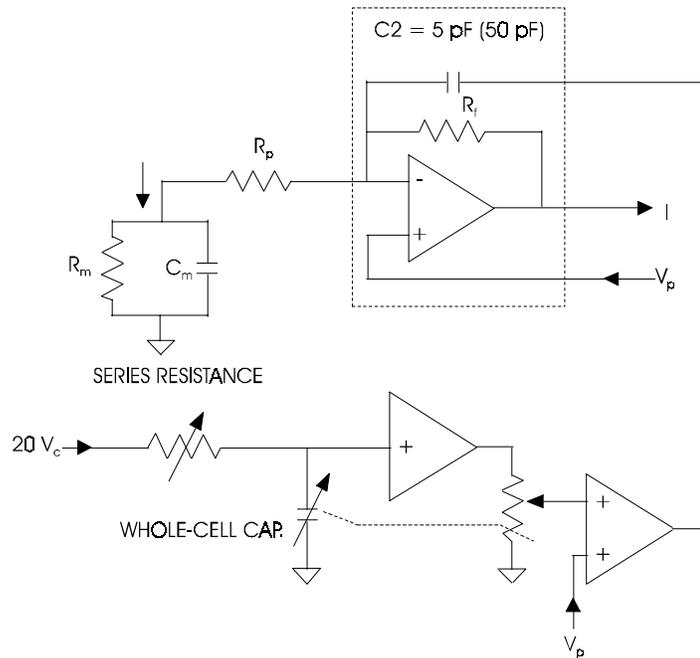

Figure 19. Whole-cell capacitance compensation circuit.
The SERIES RESISTANCE and WHOLE-CELL CAP. controls are used to charge the membrane capacitance (C_m). Figure 19 is a simplified circuit of these controls.
- 1) **WHOLE-CELL PARAMETERS: WHOLE CELL CAP.** potentiometer and its ON/OFF switch, and **SERIES RESISTANCE** potentiometer. These controls are used to cancel the whole-cell capacity transient. Their action is coordinated with series resistance compensation controls described below. Note that the **WHOLE CELL CAP.** switch must be ON to cancel whole-cell capacity transients. Turning this switch OFF disables the signal injected through the C2 capacitor in the headstage used to cancel the capacity transient (Figure 19); it also disables the **PREDICTION** potentiometer (see below). With the switch ON (for now assume that **PREDICTION** is OFF), the signal injected through C2 capacitor has an amplitude that is determined by the setting of the **WHOLE CELL CAP.** control and a time constant that is determined by the setting of both the **WHOLE CELL CAP.** and **SERIES RESISTANCE** controls. Precise canceling the whole-cell capacity transient with these controls requires a unique setting in each case. These settings are accurate representations of R_s and C_m to within 2-3%. As will be described below, the use of **PREDICTION** will modify the time course of the signal applied to the capacitor C2.